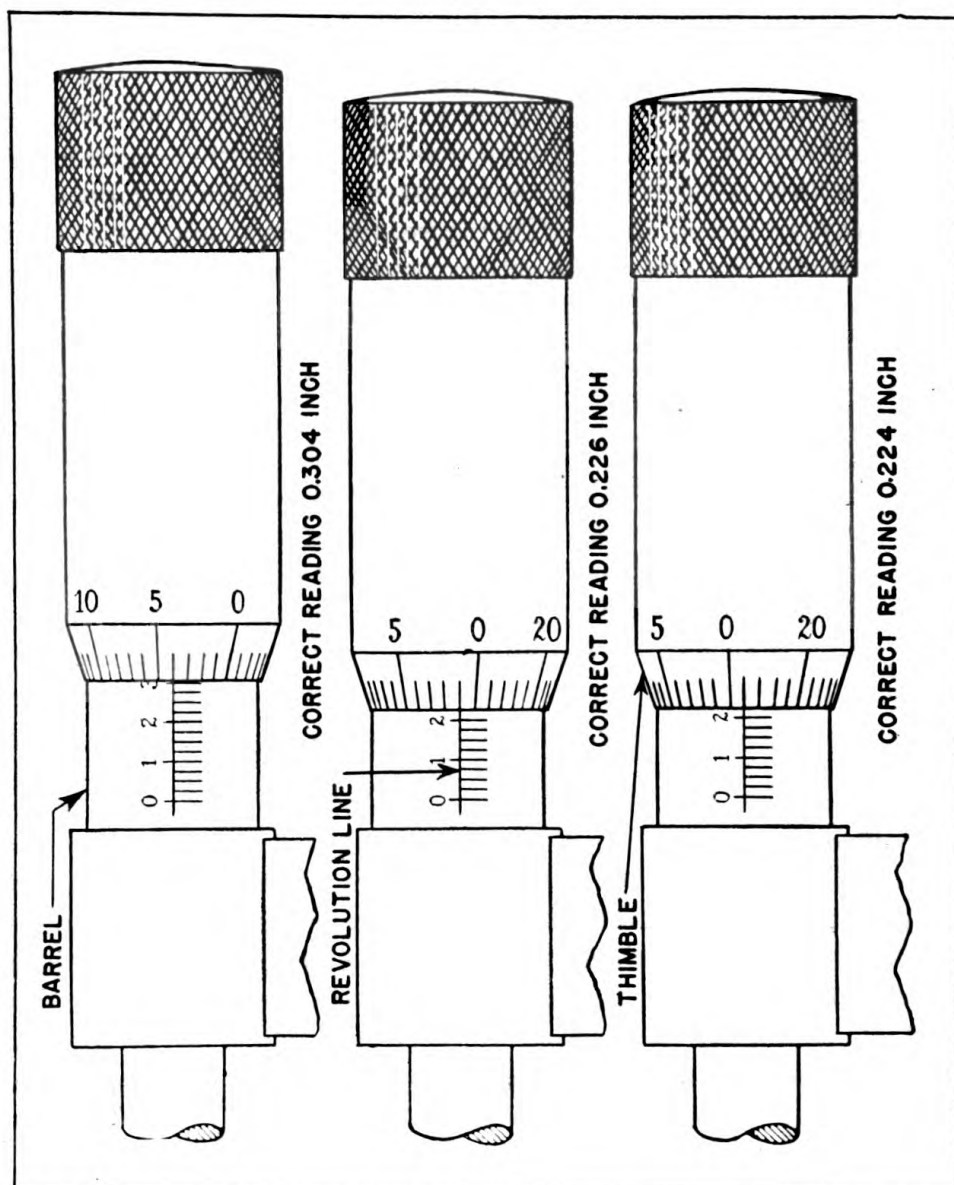

FIGURE 98.—Graduations of micrometer.
29. Reading micrometer.—*a.* As explained in paragraph 28*e*, if the sleeve of a micrometer is turned through one complete revolution, the micrometer opens or closes 0.025 inch. Hence, to change the opening 0.001 inch, the sleeve should be turned through only one twenty-fifth of a revolution. To divide the inch into 1,000 parts by using the micrometer, therefore, the problem involved is to count the number of complete revolutions, plus any part of a revolution in twenty-fifths, that the sleeve makes to set the spindle and anvil exactly against the work being measured. For this purpose, the barrel and thimble of all micrometers are marked as shown in figure 98. The revolution line on the barrel should be understood first. It is graduated in lines 0.025 inch apart, so that each complete revolution of the sleeve moves the thimble exactly 0.025 inch along the barrel, or from one graduation to the next. Two complete revolutions move the thimble 0.050 inch, three revolutions 0.075 inch, and four revolutions 0.100 inch ($\frac{1}{10}$ inch). The numbers at every fourth graduation on the revolution line indicate, therefore, tenths of an inch. ($4 \times 0.025 \text{ inch} = 0.100 \text{ inch}$.) Assuming, for example, that the micrometer is closed and the screw is turned counterclockwise through 4 whole revolutions, the edge of the thimble would exactly coincide with the fourth graduation on the revolution line (marked 1) and the micrometer would be opened $\frac{1}{10}$ inch. If the edge of the thimble coincided with the next graduation on the barrel, five revolutions would have been made, so the micrometer would be opened 0.125 inch ($0.100 \text{ inch} + 0.025 \text{ inch}$.) The graduations on the barrel are numbered from 0 to 10. The mechanic should become thoroughly familiar with them before considering the graduations on the thimble.
c. With practice the mechanic can read a micrometer correctly at a glance; however, in learning to do so the following procedure is recommended: using pencil and paper, find the largest number on the revolution line between zero and the edge of the thimble. Use the middle reading in figure 98 as an example; this figure is 2. Write it as 0.200 inch. Then add to it the number of *unmarked* graduations between this figure and the edge of the thimble, which in the example being used is 1, or 0.025 inch. Set this down under 0.200 inch, already written. At this point, if the zero graduation on the thimble coincided with the revolution line, the reading would be complete, as follows:
Therefore, in the example being used, the micrometer is open 0.226 inch. Using a similar procedure with the top reading in figure 98, the result works out as follows:
Using the same procedure again with the bottom reading in figure 98: